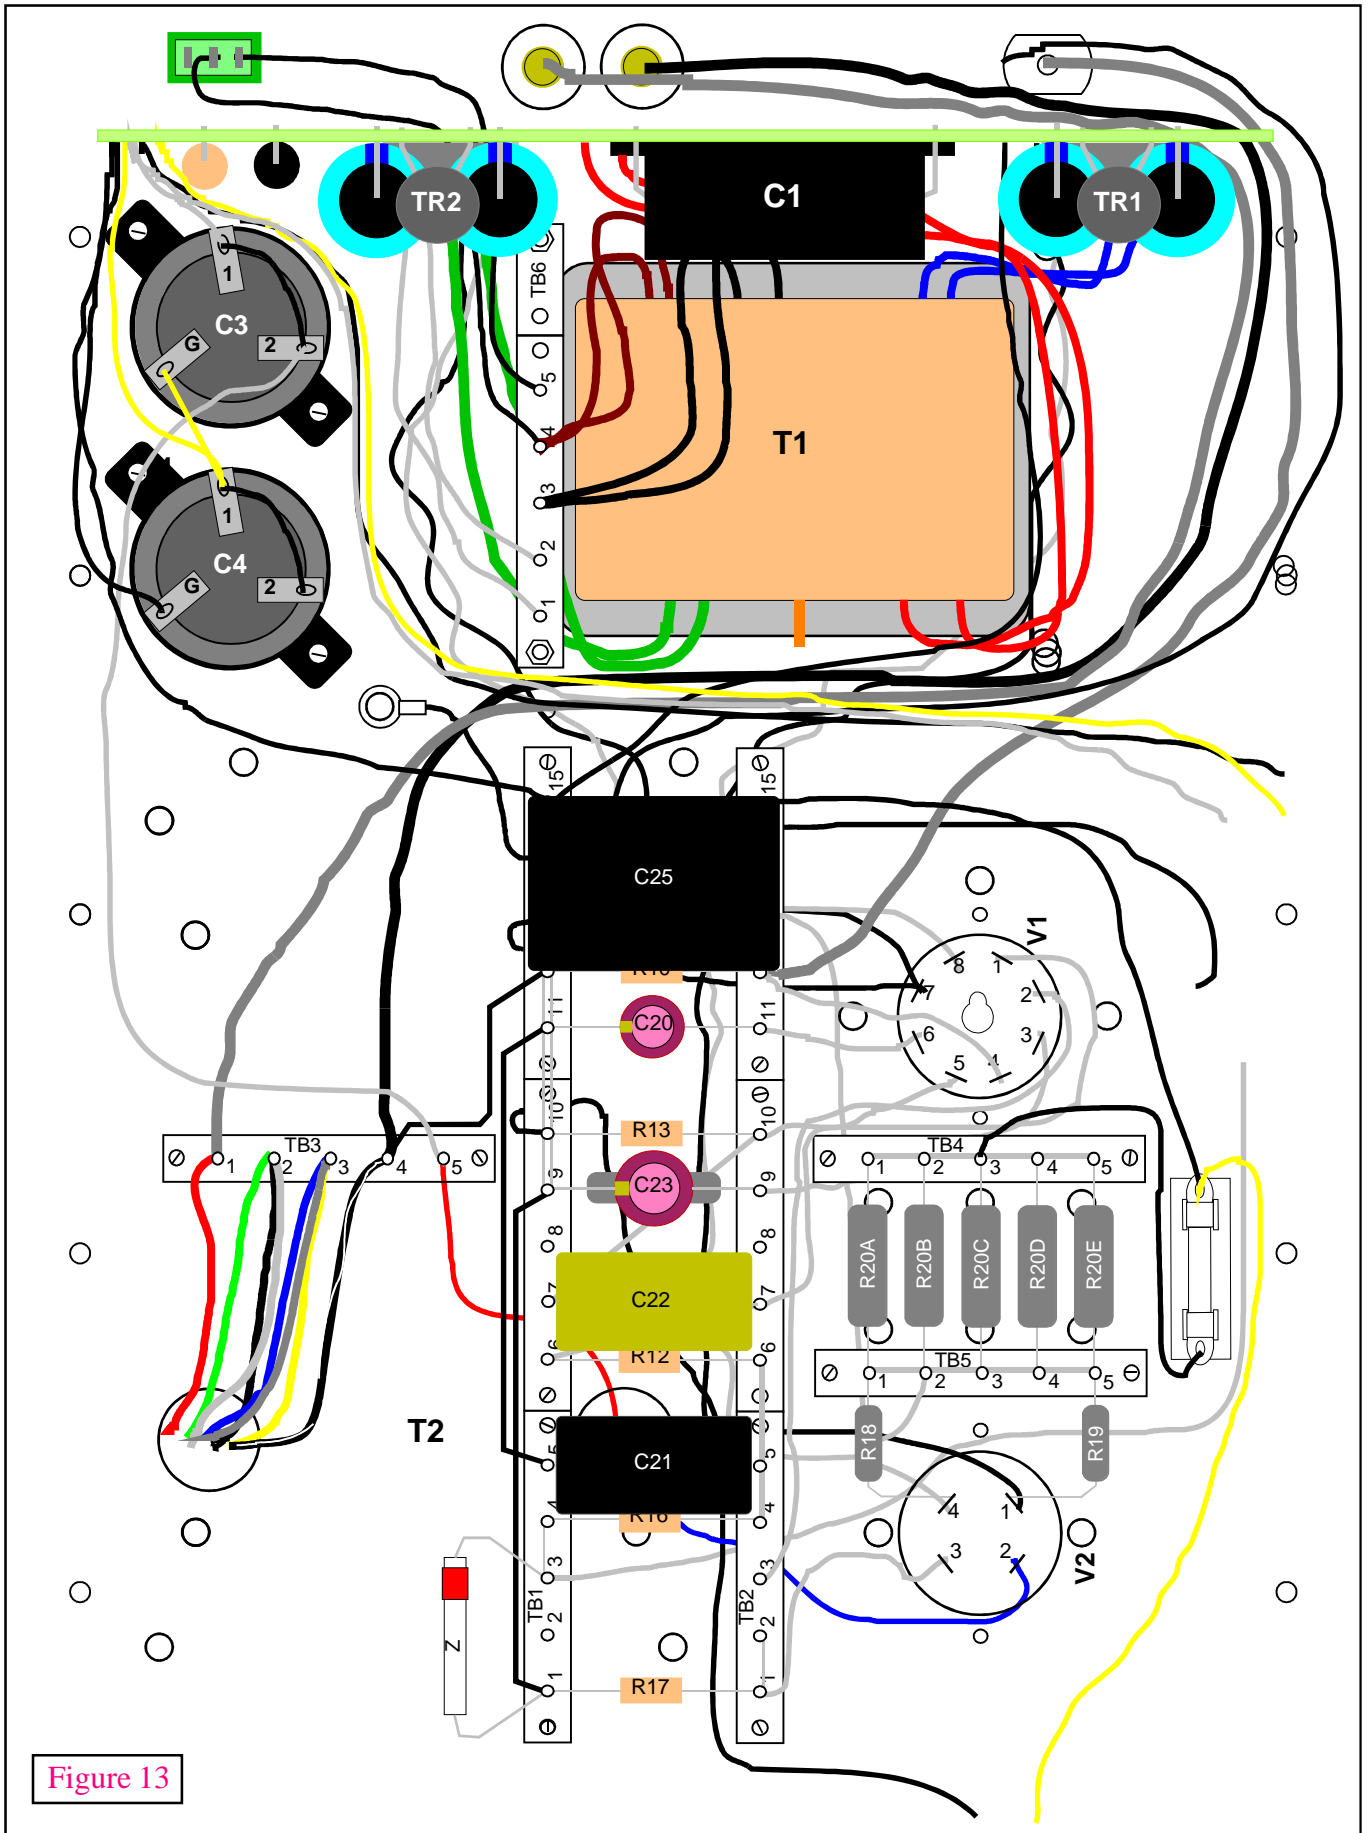

Figure 13
12) Refer to figure 13 for the following steps: